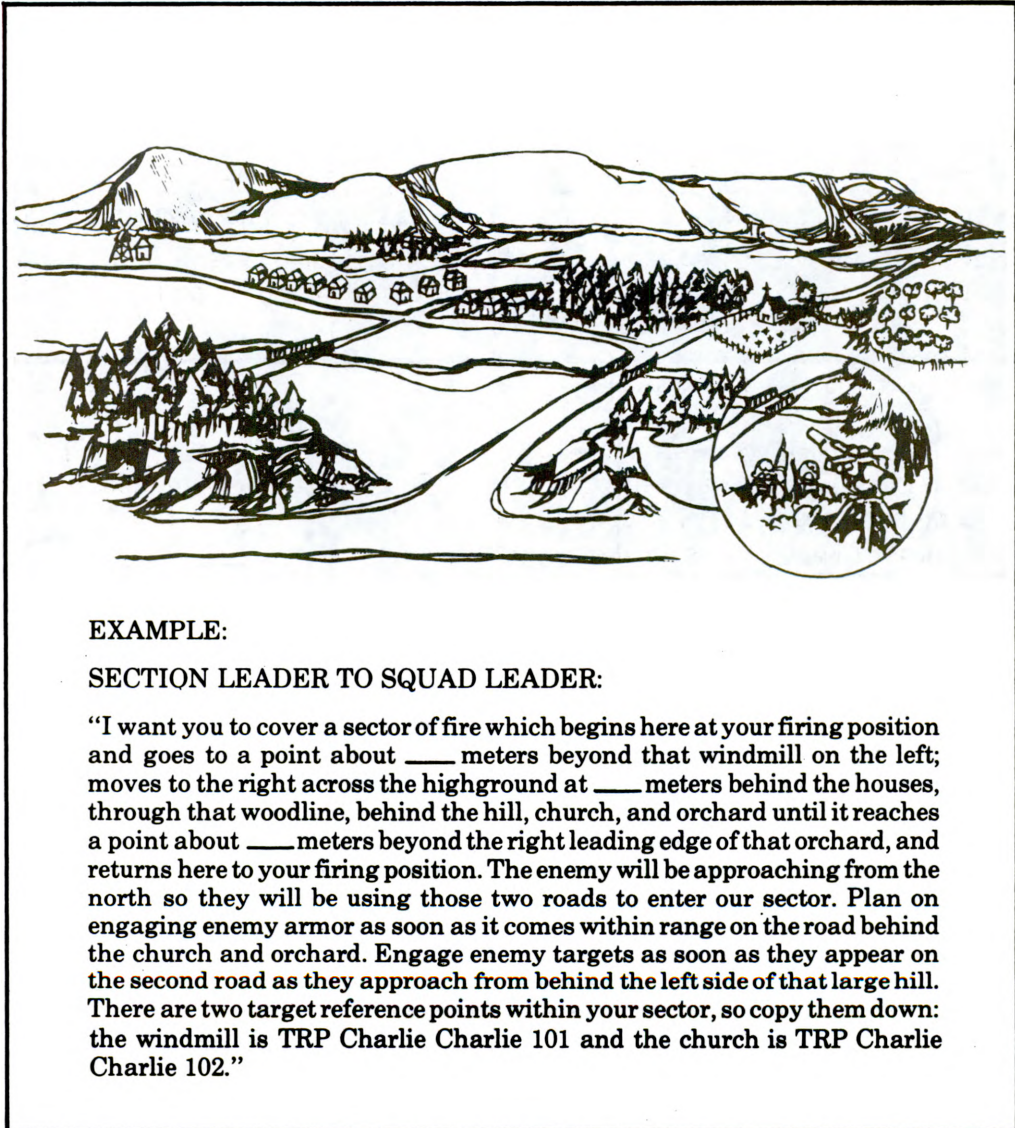

Figure 1
a. A sector of fire is a portion of the battlefield within which you are responsible to engage targets with your weapon. Leaders assign sectors of fire to insure that no matter where an enemy target approaches, there will be a weapon positioned which can engage it. After he shows you where to position your weapon, your leader will indicate your sector of fire by pointing out the portion of the terrain for which you are responsible. He will do this by giving you boundaries located between prominent terrain features or by left and right limits indicated by terrain features or azimuths (fig. 1). If necessary, he may also assign you more than one sector of fire and will designate one as primary and others as secondary.
b. Your leader may also designate anticipated target engagement locations within your sector of fire. These are recognizable terrain features on or near likely enemy avenues of approach (fig. 1). This information is placed on your range card.
c. Starting at the company level, commanders may pick out natural or manmade terrain features on the battlefield which can be used as reference points for locating targets and adjusting direct fires. These are called target reference points (TRPs) and are assigned a specific letter and number. If there are TRPs in or near your sector of fire, your leader may point them out and tell you the letter and number (fig. 1). If he does, they are shown on your range card.